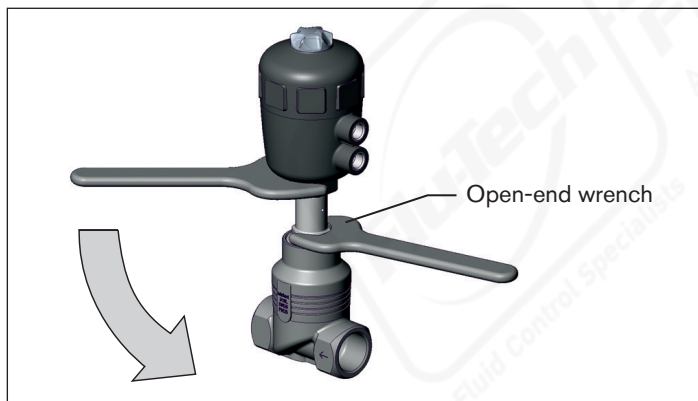

Fig. 20: Rotating with open-end wrench
- ▶ Only turn the actuator **in the specified direction** (see „Fig. 20“).